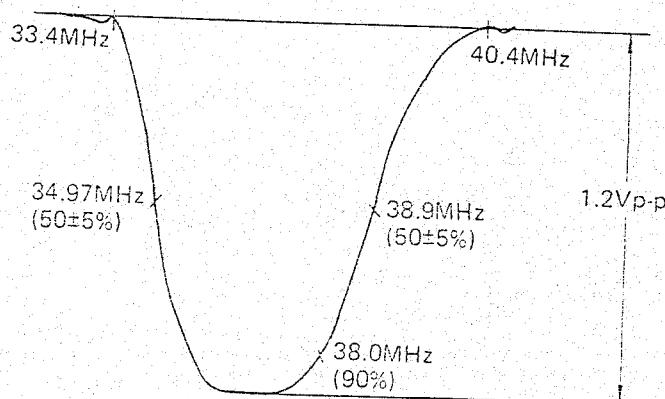

Fig. 3
- (1) Connect the sweep generator output to test point of tuner through PAD-2 (A).
- (2) Connect resistor 180Ω to TP203.
- (3) Adjust the AGC pad to earth side for the max. display amplitude.
- (4) Adjust the sweep generator output level to 1.2 Vp-p.
- (5) Increase the sweep generator output level by 20 dB and adjust the AGC pad VR clockwise until display shows 1.2 Vp-p.
- (6) Summarily, adjust T202 to 40.4 MHz and T203 to 33.4 MHz.
- (7) Adjust T101 (tuner IF coil) to the vicinity of 35.5 MHz and T201 to the vicinity of 38 MHz on the response.
- (8) Adjust T204 and T205 to obtain the waveform as shown in Fig. 3.
- (9) Increase the sweep generator output level by 20 dB and adjust T202 and T203 to correct position.
- (10) Reduce the sweep generator output level by 20 dB and confirm that the waveform as shown in Fig. 3.